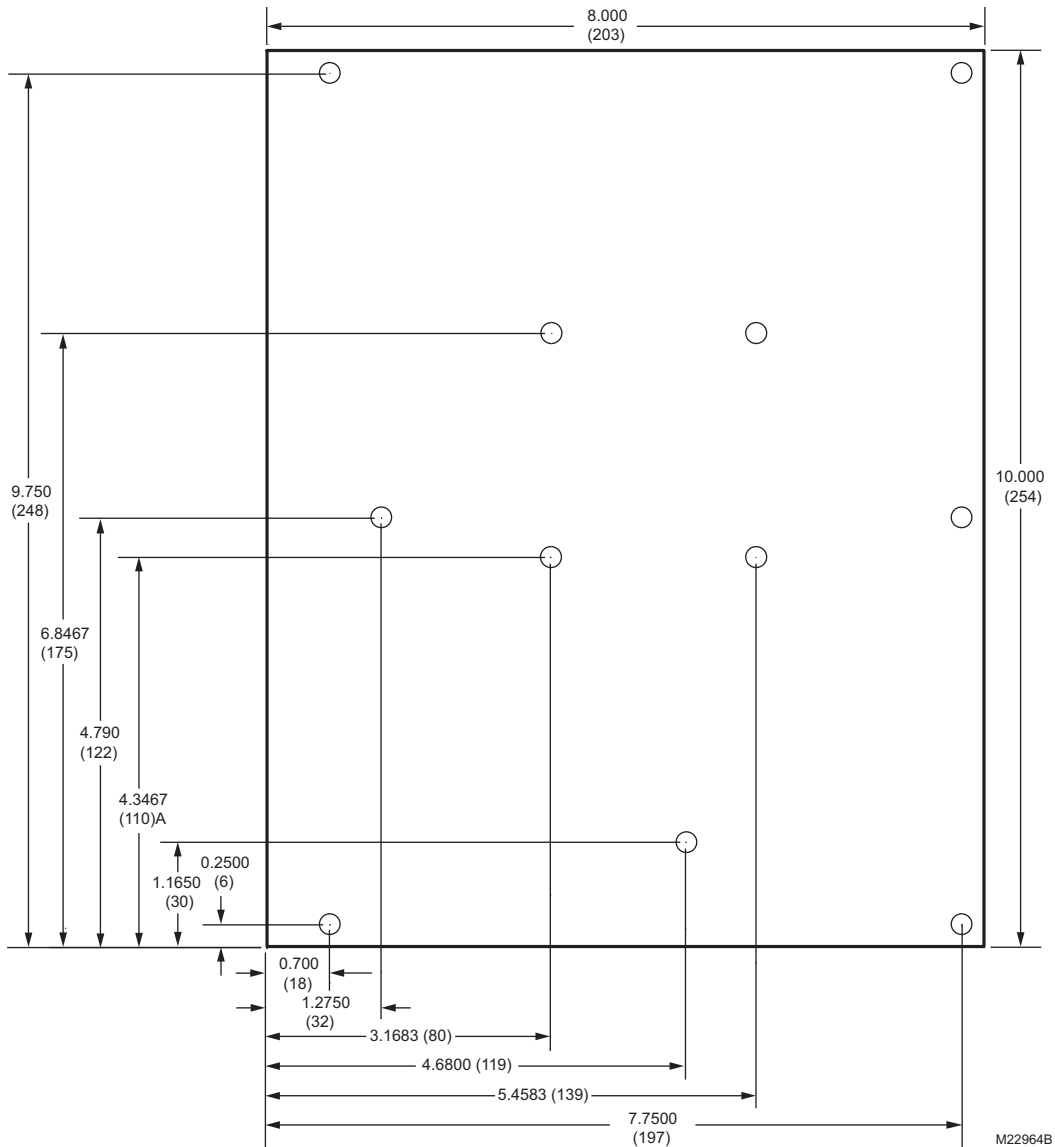

Fig. 3. Enclosure mounting hole locations for the Q7800H1018, 1026, 1034, 1059, 1067, and 1091 Subbase Panel, dimensions in in. (mm).
2. The subpanel must be mounted in an appropriate metal enclosure with a low impedance connection to earth ground. See Fig. 3 and 4 for mounting hole locations.